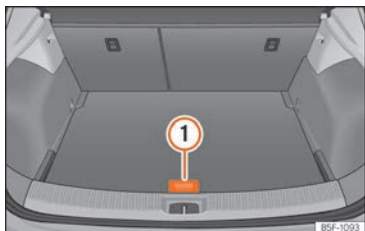

Fig. 191 Boot: variable floor
»» Fig. 191 ①, pull it back and push the backrest of the rear seat until the movable part of the floor is resting on it.